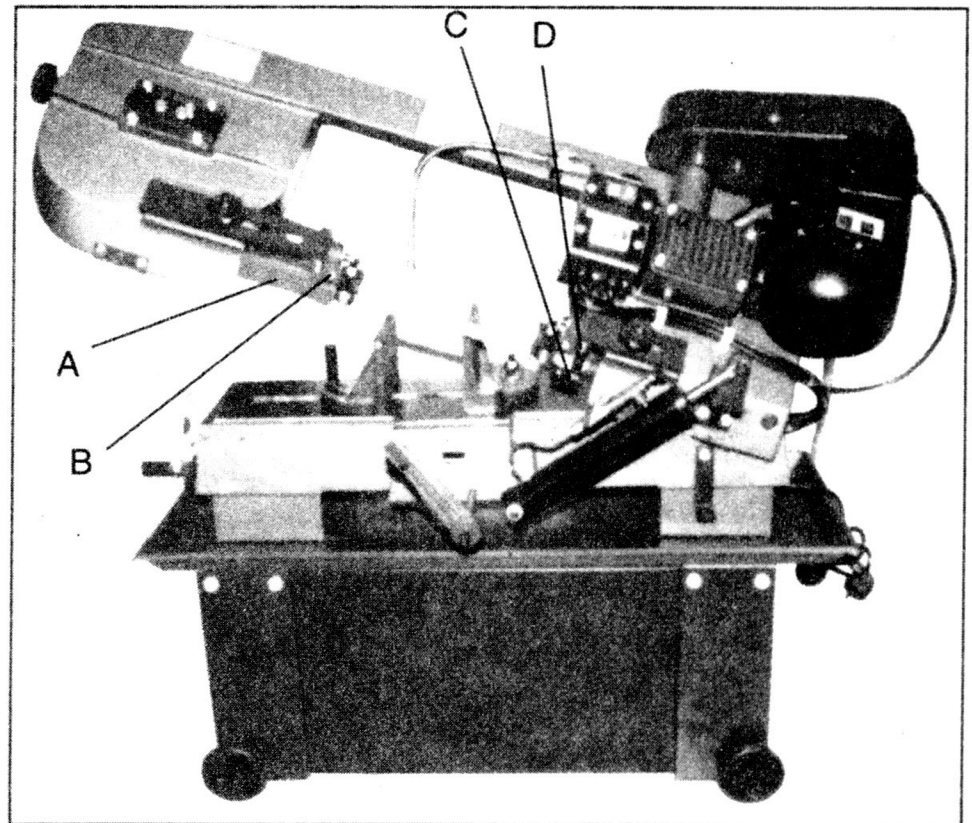

Fig.10
3. Remove red blade guard assembly (A, Fig.10) by removing two screws (B).